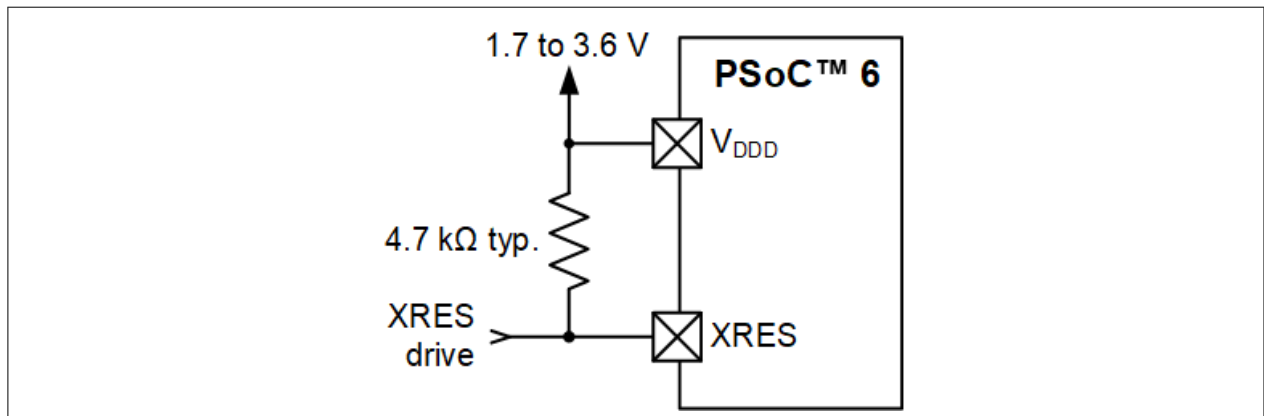

Figure 5 XRES connection diagram
- External reset dedicated pin (XRES) to reset the device using an external source. The XRES pin is active low. It can be connected either to a pull-up resistor to V_{DD} , or to an active drive circuit, as Figure 5 shows. If a pull-up resistor is used, select its value to minimize current draw when the pin is pulled low; 4.7 kΩ is typical